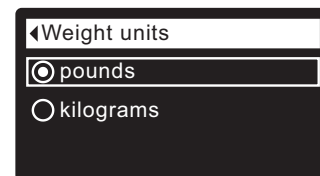

FIG. 115
5. Press the SELECT (O) button to display the Weight units menu (See Figure 115).
6. If the desired weight unit already has a dot next to it (See Figure 115), go to Step 7. Otherwise, press the DOWN (▼) or UP (▲) buttons to scroll to the other weight unit, then press SELECT (O) to choose it.
7. Press the SELECT (O) button. The display will go back to the User preferences menu.